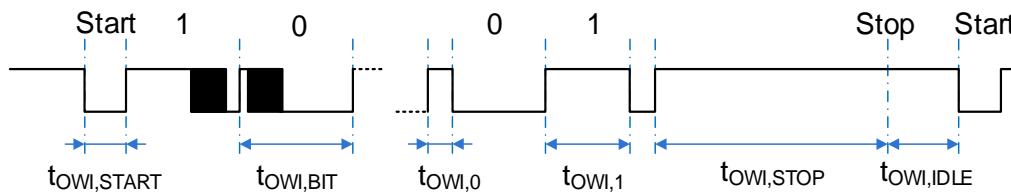
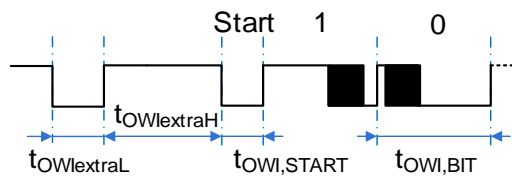

Figure 14. OWI Timing Diagram
Figure 15. OWI Extra (Activation) Pulse for Concurrent OWI and Analog Output Configuration
- **Valid Data:** Data is transmitted in bytes (8 bits) starting with the most significant bit (MSB). Transmitted bits are recognized after a start condition at every transition from low to high at the OWI line. The value of the transmitted bit depends on the duty ratio between the high phase and high/low period (bit period,  $t_{OWI,BIT}$  in Figure 14). A duty ratio greater than  $1/8$  and less than  $3/8$  is detected as 0; a duty ratio greater than  $5/8$  and less than  $7/8$  is detected as 1. The bit period of consecutive bits must not increase to more than 1.5 times the previous bit period or decrease to less than half of the previous bit period because a stop condition is detected in this case.
OWI protocol timing and parameters are specified in Figure 14, Figure 15, and Table 23.
- **Continuous OWI and Analog Output:** The configuration *owi\_off* = 0, *cont\_ANAoutn* = 0, and *owi\_su\_case* = 1 results in AOUT providing analog output levels as soon as they are available after power-up (in Cyclic Mode). Concurrently, the OWI listens to the AOUT1 pin in order to check for valid OWI commands. The OWI still needs to be enabled by means of the *Startup OWI* command. The physical protocol in this configuration requires an extra pulse (see Figure 15) prior the *Startup OWI* command. After the release of the extra OWI initialization pulse, the analog output is switched off2 and AOUT becomes the OWI I/O pin until the OWI startup window (according to *owi\_su\_length*) has elapsed. The OWI-master implements *Dynamic Driving* to avoid dynamic currents (due to DAC-output level changes) causing unwanted pull-up signal generation (via *ROWI,PULL*). When *Dynamic Driving Approach* is not applied in this configuration, set the constantly connected OWI-master pull-up resistances (*ROWI,PULL*) to ≥5.5kΩ to prevent erroneous OWI-start detections that can be triggered by changing DAC-output levels. Limit the interface speed to slower values with the proper setting, such as longer bit period.